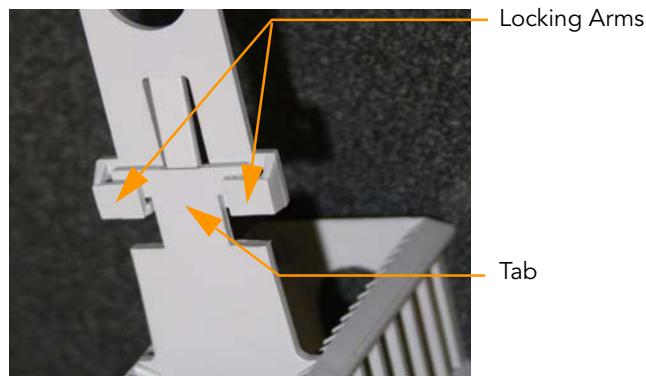

Figure 154 Staining Rack Locking Arms and Tabs
4. Submerge the unloaded staining rack into the wash dish with the locking arms and tab **facing you** (Figure 154). This orients the staining rack so that you can safely remove the BeadChips.